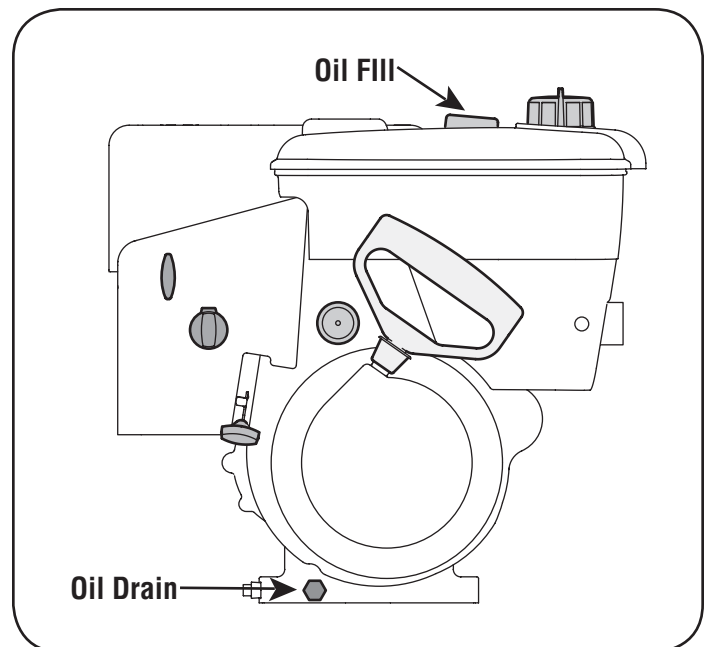

Figure 14
- Change oil after first two (2) operating hours and every 25 operating hours thereafter.
1. Locate the oil drain plug. See Figure 14.